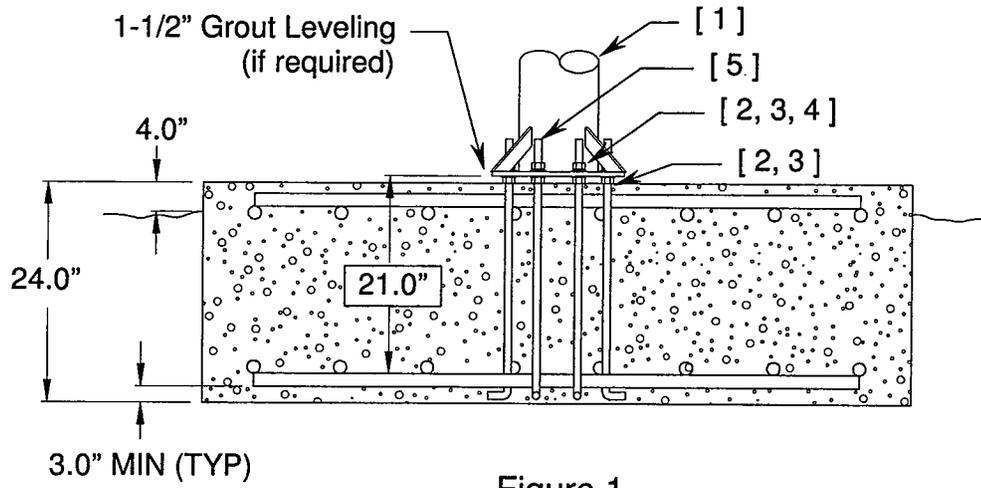

Figure 1
Figure 1 shows a suggested Pad Foundation and figure 2 shows a suggested Pier Foundation. Both foundations utilize Prodelin' s Pedestal Mount. To install the Pedestal Mount foundation, follow the steps below.
1. Install one [1] 1½" -6 hex nut and one [1] 1½" flat washer (items 2,3) onto the anchor rod (item 5), then insert the anchor rod into one of the holes in the plywood template (item 6) and install another 1½" -6 hex nut and 1½ " flatwasher. Repeat this procedure for the remaining anchor rods. This will keep all the anchor rods in the straight and proper orientation when the concrete is poured. Next, install two [2] 1-8 hex nuts and one [1] flatwasher (items 2,3) on the other end of each anchor rod. See following pad layout and figures 1 & 2.
3. Once the concrete is dry, remove the plywood template and screw the lower hex nuts as far down on the anchor rods as possible. Then install the mast pipe (item 1) on to the anchor rods. Adjust the lower hex nuts until the mast pipe is level in the vertical position. Reinstall the flatwashers, lockwashers and hex nuts. With the mast pipe tightened down, fill the space between the concrete slab and the mast pipe base with grout.